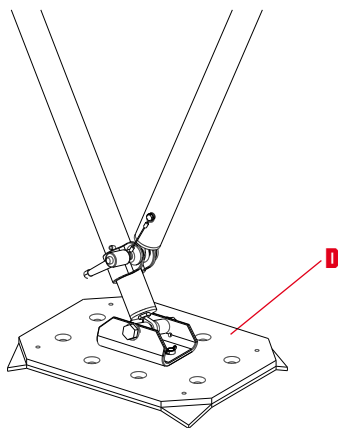

fig. 4B
- clawed side down for rough, irregular or soft surfaces, (fig. 4B),